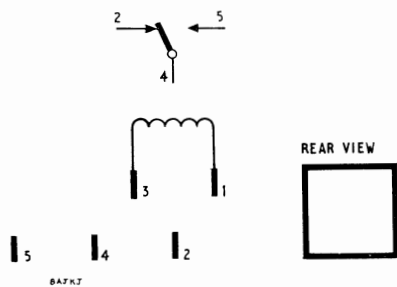

FIG. 3.—SINGLE COIL (RELAY No. 3/401)
**3. Tag numbering.**—The coil and contact connexions are wired to the tag assemblies, as shown in Figs. 3, 4 and 5. The coil connexions are taken to the upper set of tags and the contact connexions to the lower set.